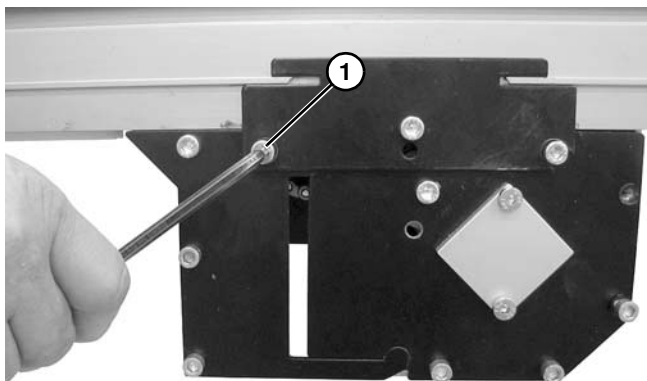

Figure 46
1. Loosen screw (**Figure 46, item 1**) on each side of conveyor.